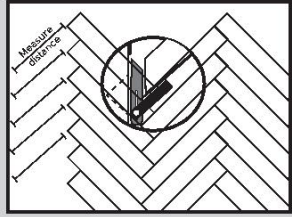

Fig 9
10. Cutting and installing planks at the walls should be done as follows. Measure and mark planks as shown in diagram. The angle for the wall can be found using an angle finder (see below) (Fig 9).